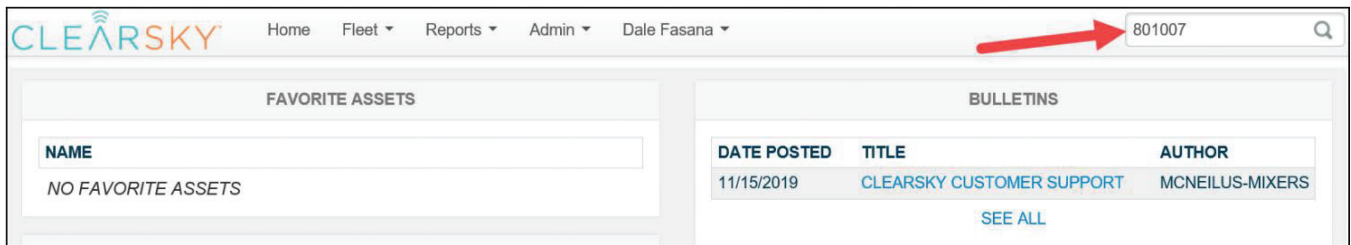

Figure 6
21. Search for truck serial number (last six digits of truck VIN) in ClearSky search window. See Figure 6.